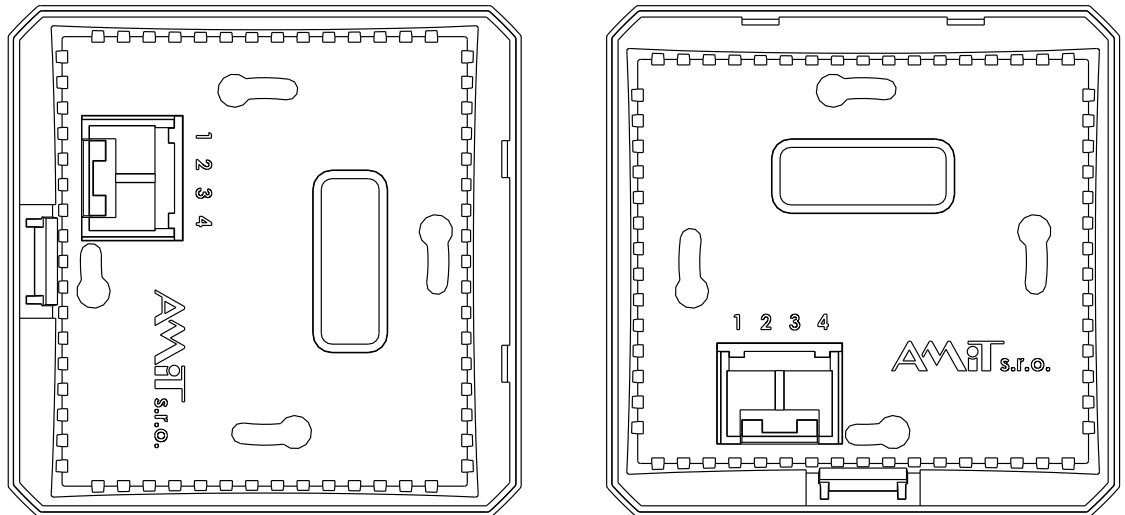

Fig. 14 – The controller mounting in vertical position (left),
**Vertical mounting** The controller is mounted according to Fig. 14 left. The temperature sensor is located in left lower corner.
**Horizontal mounting** The controller is mounted according to Fig. 14 right. The temperature sensor is located in right lower corner.